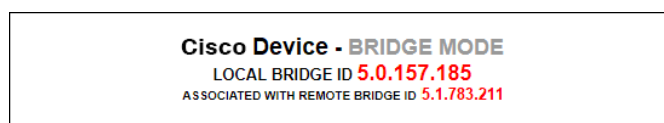

Figure 43. Configurator interface (Unit ID information)
- The unit ID number of the local unit is shown as the **LOCAL BRIDGE ID** (Figure 43 \(page 115\)).